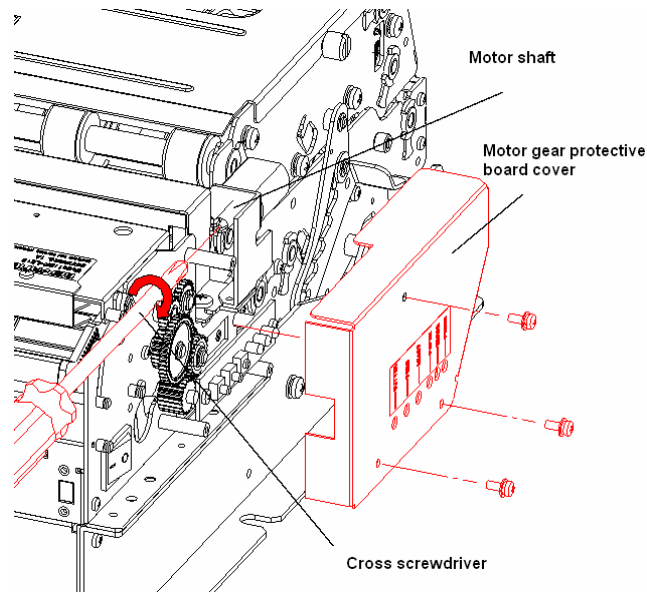

Figure 5.4.1 Cutter manual-resetting
- 3) Use cross screwdriver to rotate motor shaft according to the printer figure 5.4.1 as below, push cutter